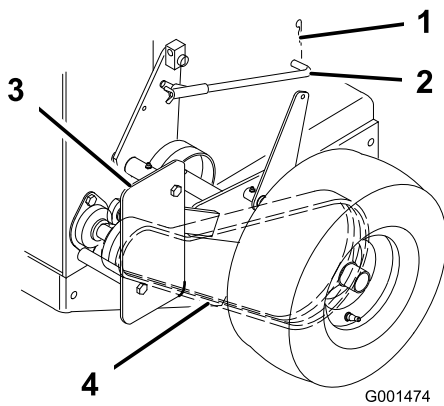

Figure 39
3. Remove the hairpin cotter securing the brake rod to the brake arm to relax the tension on the belt idler (Figure 39).
4. Remove the bottom bolt and loosen the top bolt of the shield to rotate it for belt clearance (Figure 39).
5. Lift the belt past the idler and off the drive pulley (Figure 39).
8. Secure the shield with the previously removed bolt and tighten the bolts (Figure 39).
9. Secure the brake rod to the brake arm with the hairpin cotter (Figure 39).